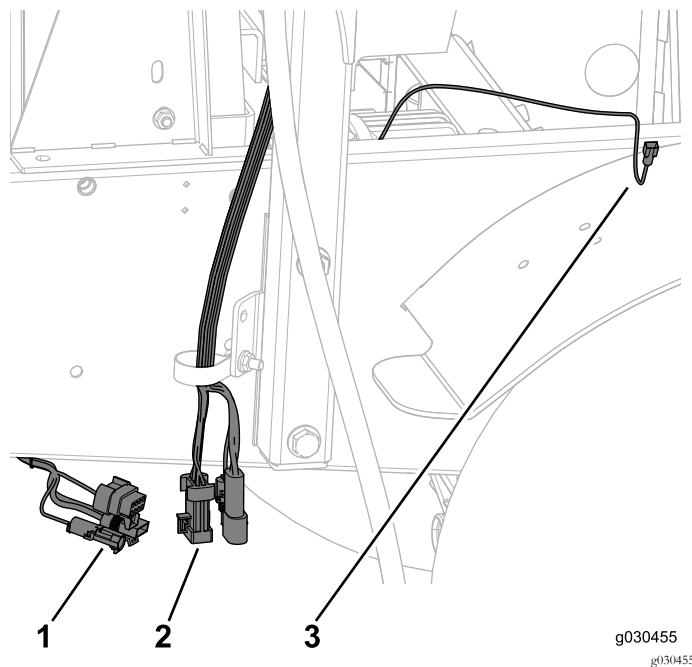

Figure 61
1. Disconnect the wire harness secured to the machine from the wire harness secured to the cab (Figure 61).